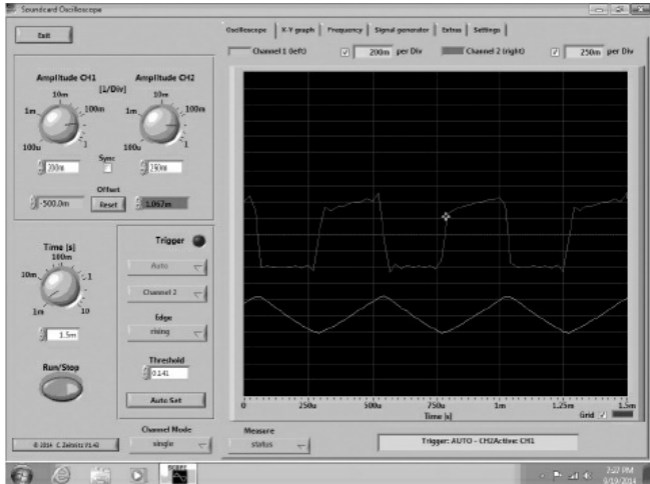
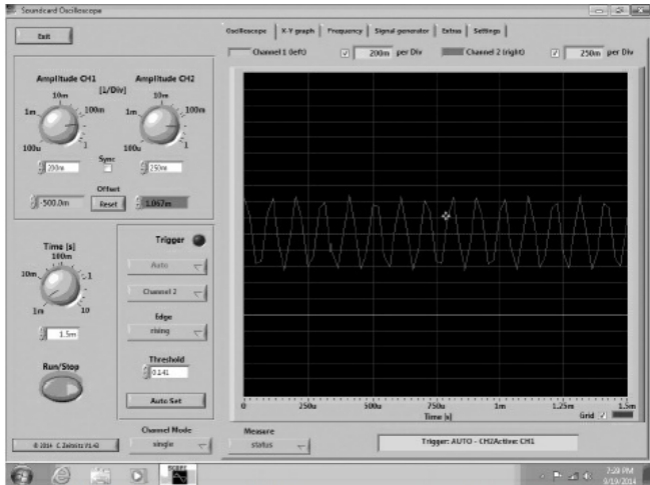

Figure A1.2 — This is how an imperfect square wave and a triangular wave look on the scope screen. The two waveforms are synchronized in the signal generator.
Figure A1.3 — The harmonics of a 10 kHz square wave are beyond the sound card bandwidth so the square wave appears distorted.
**Figure A1.2** shows the screen when the OSCILLOSCOPE tab has been selected. Voltage calibration is not exact; the voltage scale is arbitrary and its range is a 16-bit number. However if you put a known waveform in one
Figure A1.2 shows a roughly 2 kHz square wave and the same frequency triangular wave on the scope face. Notice that the square wave is relatively square — compare this to **Figure A1.3** where a 10 kHz square wave is shown.